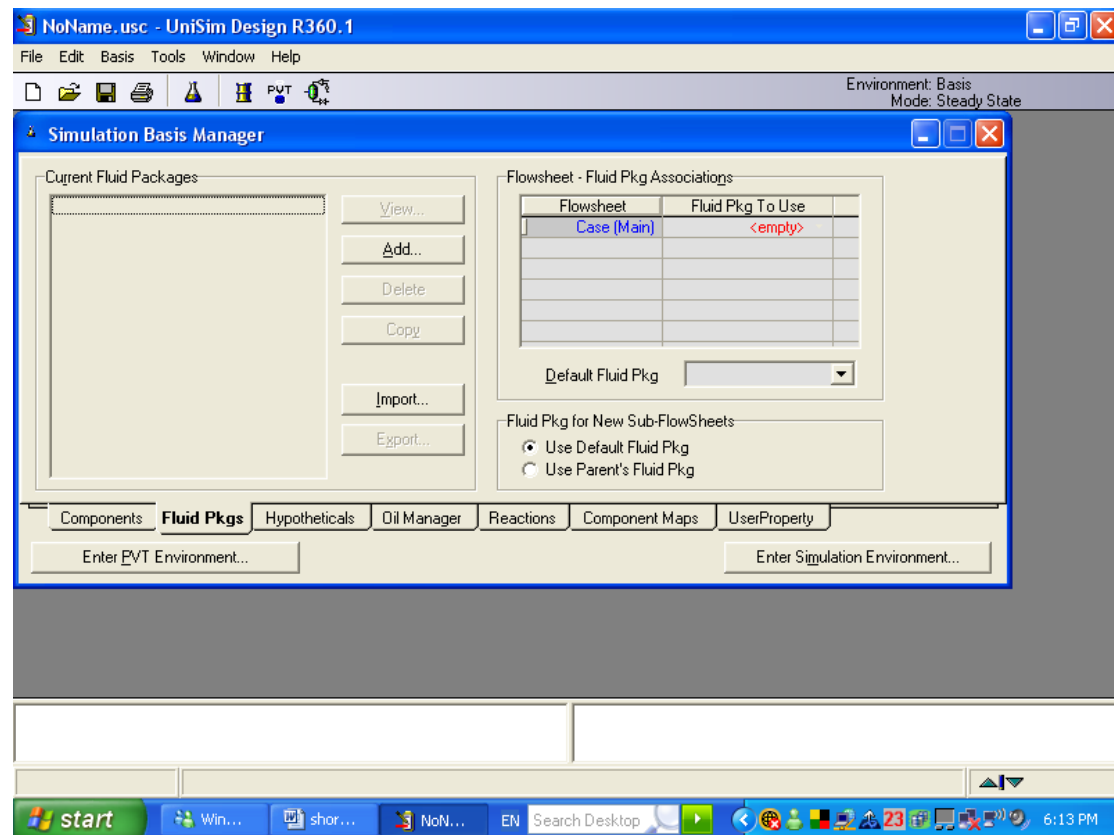

Figure K-9. Snapshot of Simulation Basis Manager window.
Step 9. The Simulation Basis Manager window appears as shown in Figure K-9. Click on Fluid Pkgs tab as shown in Figure K-9. Then click on the **Add** button.